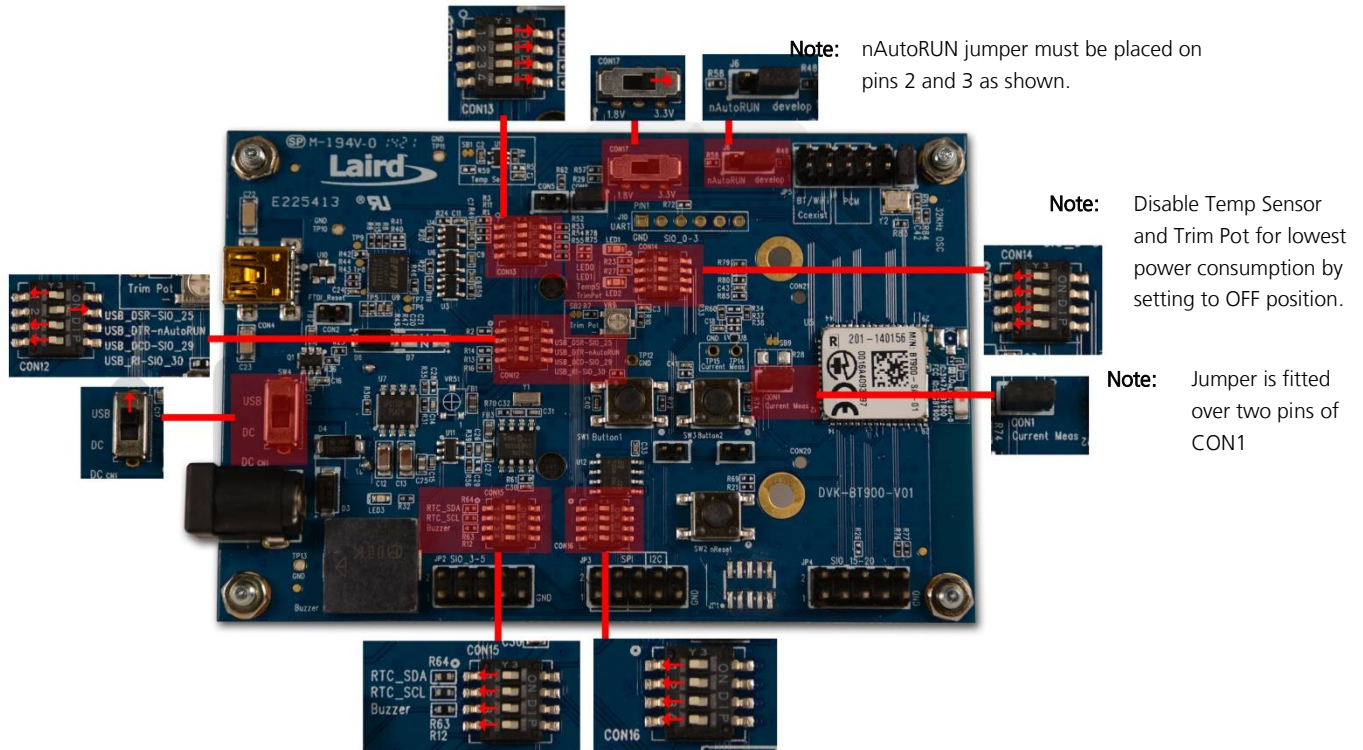

Figure 2: Correct development board settings
**Important!** To ensure correct 'out of the box' configuration, the BT900 development board must be set according to Figure 2.